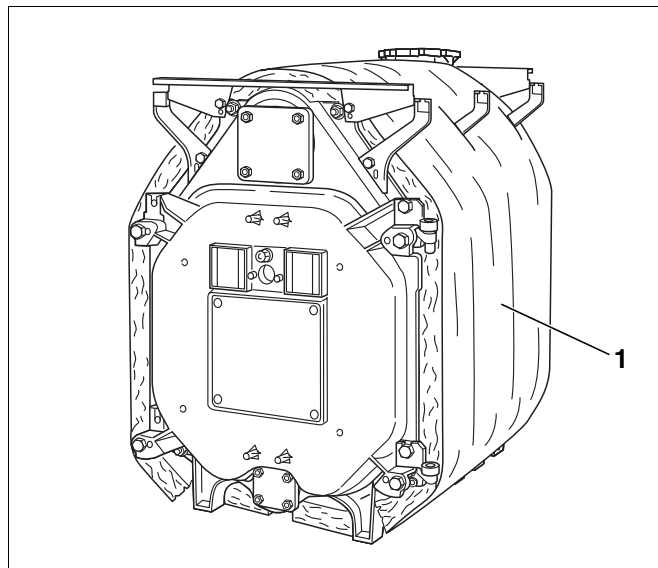
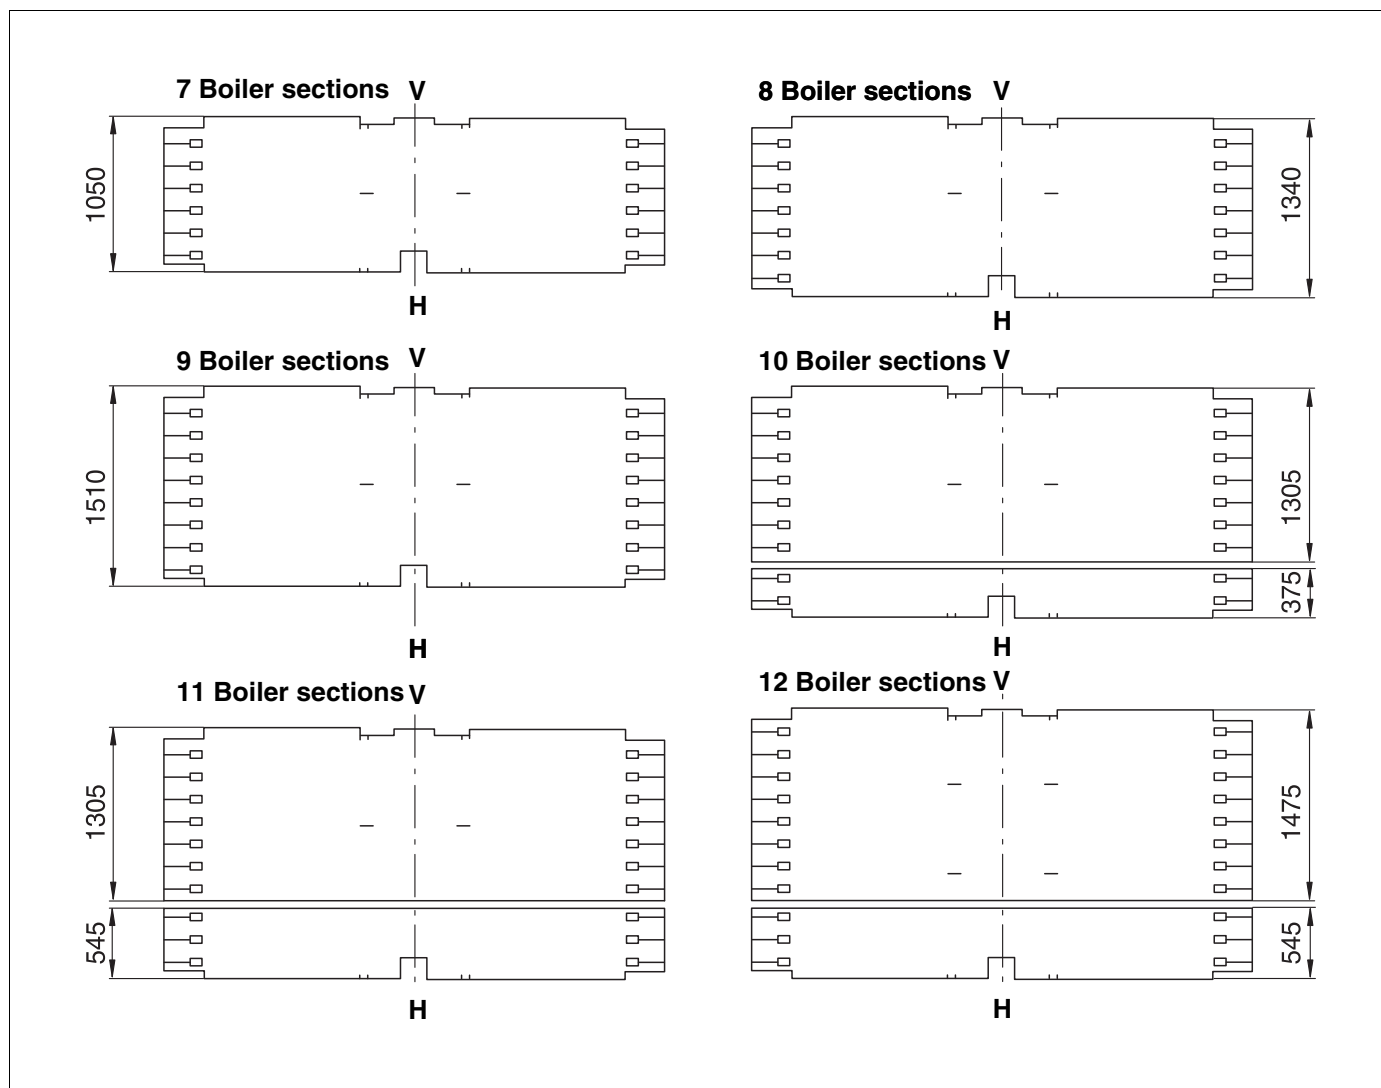

Fig. 41 Boiler block with thermal insulation
Fig. 42 Thermal insulation for the various boiler sizes (dimensions in mm)
- ▶ The insulation provided (Fig. 41, [1]) matches the boiler size. Arrange the lagging on the boiler block as shown in the diagram in Fig. 42 (the figures above the thermal insulation which is shown spread out correspond to the number of boiler sections).